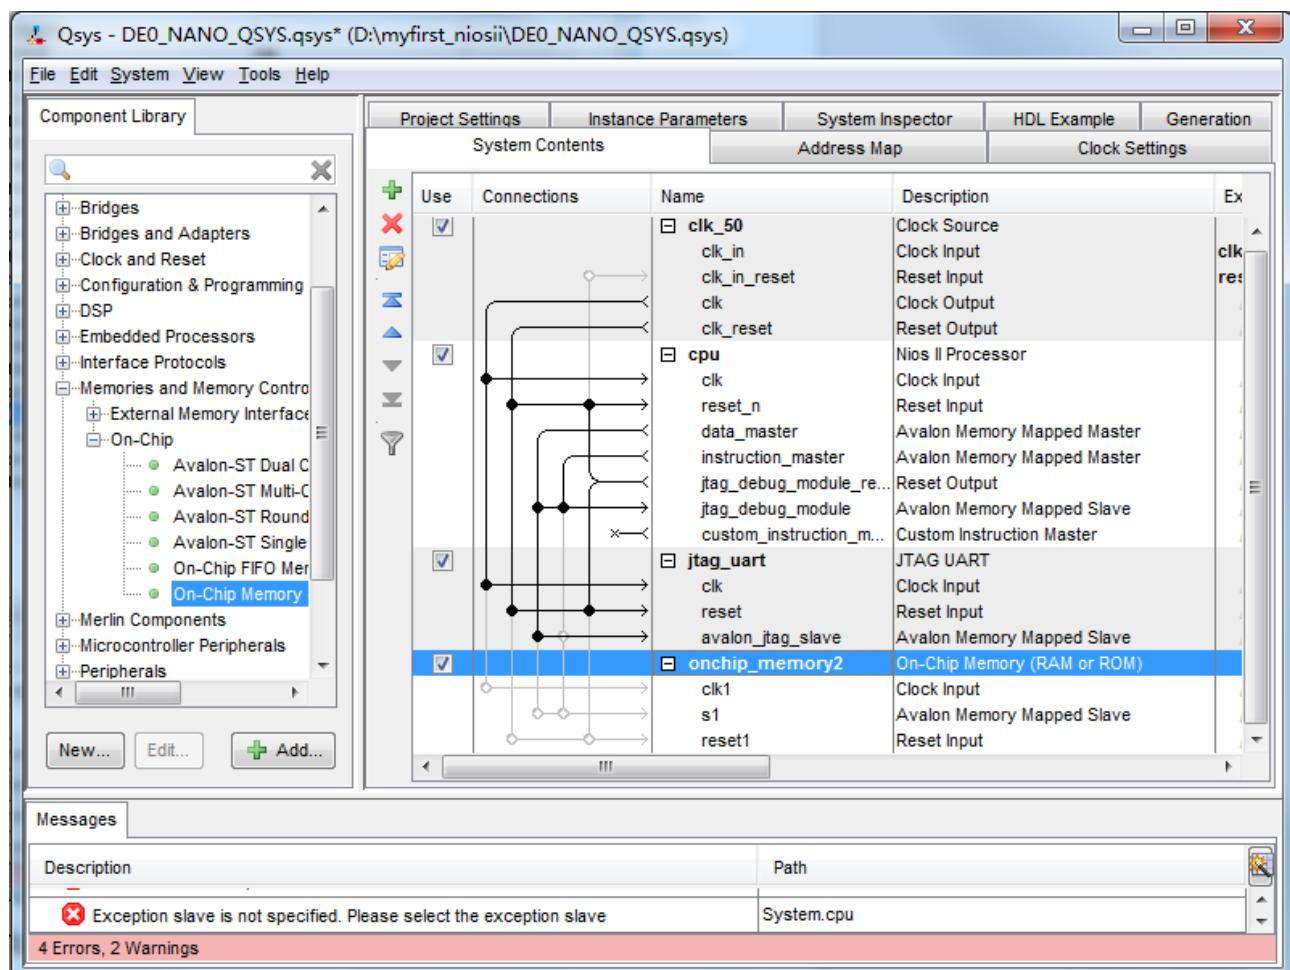

Figure 1-30 Rename On-Chip memory
18. Rename onchip_memory2_0 to onchip_memory2 as shown in Figure 1-30.